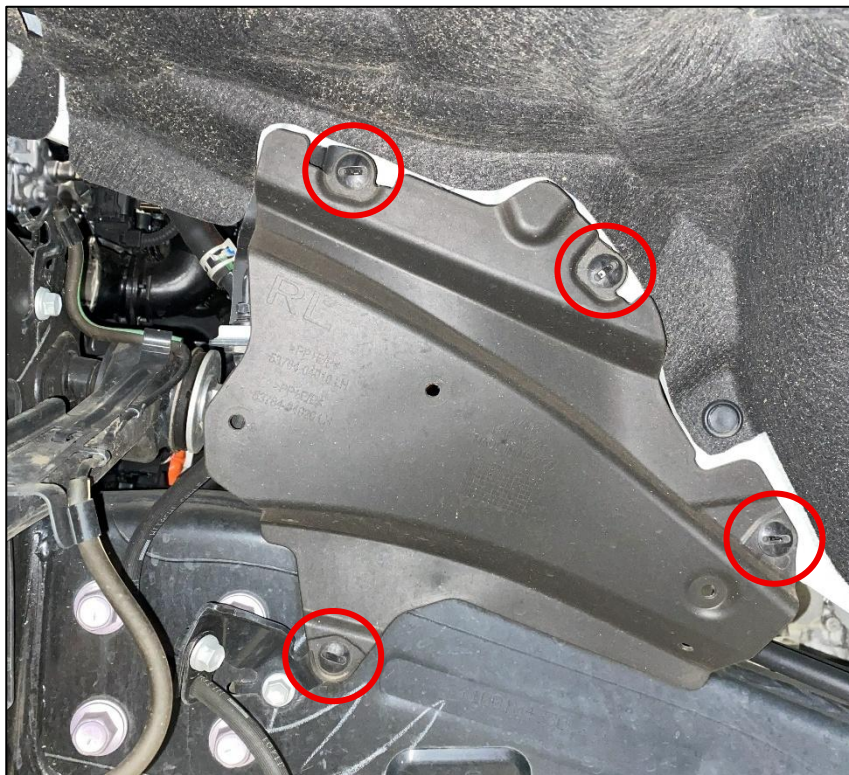

Figure 1
1. Remove the (4) four plastic clips securing the small plastic liner to the frame and Fender Liner and set the liner aside. *Figure 1.*